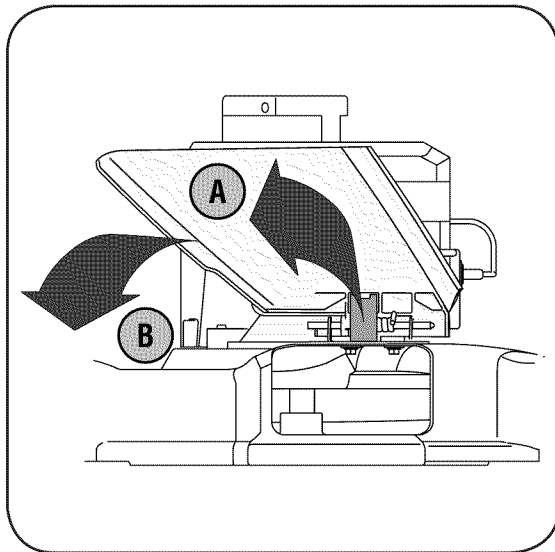

Figure 3-1
- a. Push chute deflector up towards engine. Holding deflector in this position, remove the retainer and discard. See Figure3-1.